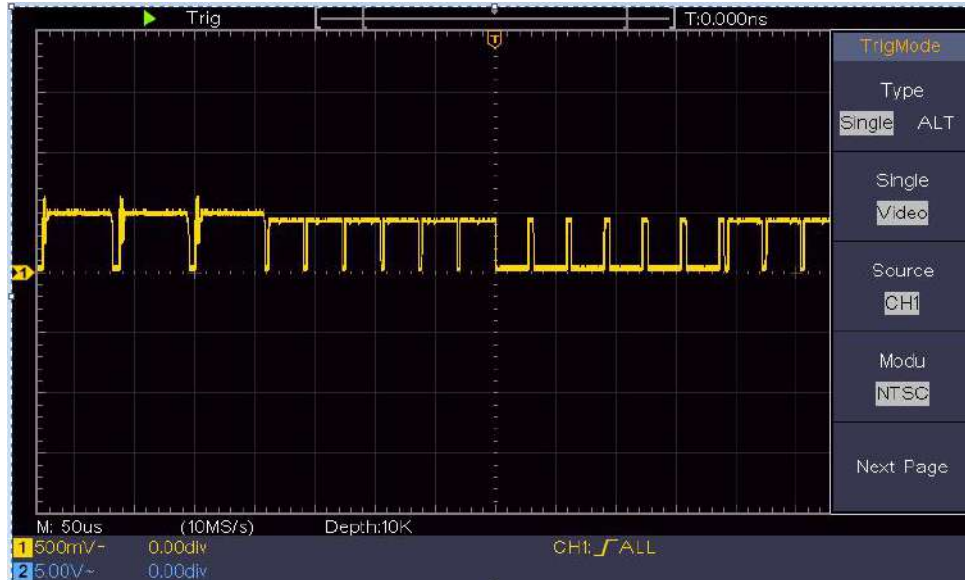

Figure 6- 7 Waveform Captured from Video Field Trigger
- (1) Push the **Trigger Menu** button to display the right menu.
- (2) In the right menu, select **Type** as **Single**.
- (3) In the right menu, select **Single** as **Video**.
- (4) In the right menu, select **Source** as **CH1**.
- (5) In the right menu, select **Modu** as **NTSC**.
- (6) In the right menu, press **Next Page**, select **Sync** as **Field**.
- (7) Turn the **Vertical Scale**, **Vertical Position** and **Horizontal Scale** knobs to obtain a proper waveform display (see *Figure 6- 7*).